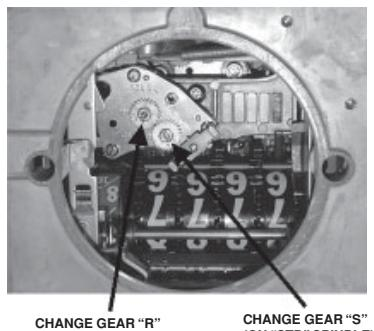

FIGURE 6
When one register is removed and another substituted, (1) Check the number of teeth on the change gears (see Figure 6). They must be the same as the gears on the old register **and on the same respective spindles**. The number of teeth is stamped on each gear. To remove these gears, close the split end of the spindle with a pair of pliers and pull off the gear. After putting on a gear, spread the end of the spindle slightly. (2) Make sure the position of the "Gear Shifter" is the same on the new register as on the old one — each hole is lettered for convenience.